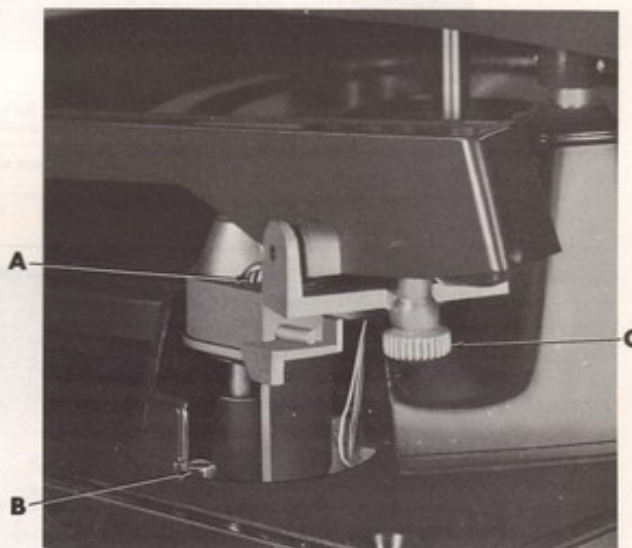

Figure 1 -- Tone Arm & Stylus Pressure Adjustments
Coupling (105). See adjustment "A" (Figure 1). Rotate the screw clockwise to set the Tone Arm down closer to the record's edge. Adjust the screw counter-clockwise to set the Tone Arm down further from the record's edge.
Tone Arm Height Adjustment Screw (96) sets the height to which the Tone Arm raises during the change cycle. As the Tone Arm swings out under the stacked records it must clear the bottom record in the stack by approximately 1/4". Make adjustment "B" (Figure 1) by rotating the screw clockwise to lower the Tone Arm and counterclockwise to raise it. Check Tone Arm tracking on a single record.
Use a suitable gram scale to measure stylus pressure. Follow the scale manufacturer's instructions. Stylus pressure is set by rotating the Stylus Pressure Adjustment Screw (3-4J). See adjustment "C" (Figure 1). Correct stylus pressure is between 3 and 3 1/4 grams.